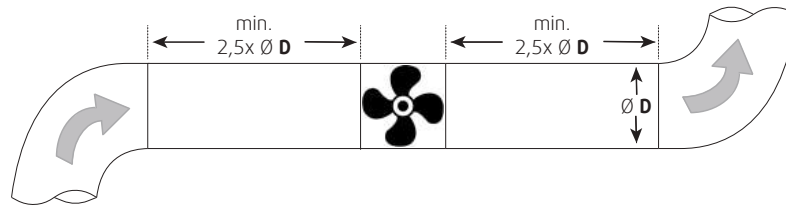

Fig. 1 Straight ducts
- ◆ Ensure a smooth and constant air flow to the device. Ensure a free exhaust. See Fig. 1 *Straight ducts*, page 10.